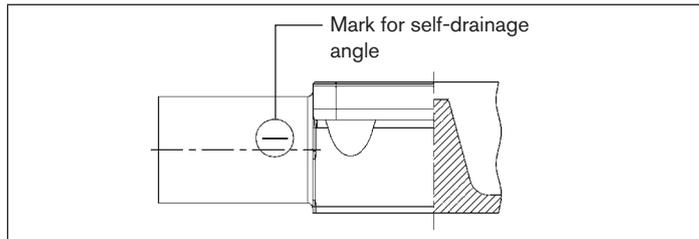

Fig. 26: Mark for the correct installation position
- Observe an inclination angle of $1^\circ - 5^\circ$. Forged and cast bodies feature a mark which must face upwards (12 o'clock position, see "Fig. 26: Mark for the correct installation position").